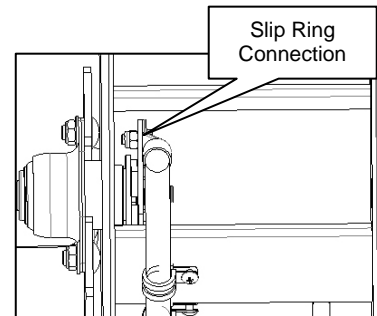

Figure 2
- Fasten the cable to the slip ring assembly with the supplied 1/4-20 brass bolt and nut as shown in **Figure 2**.